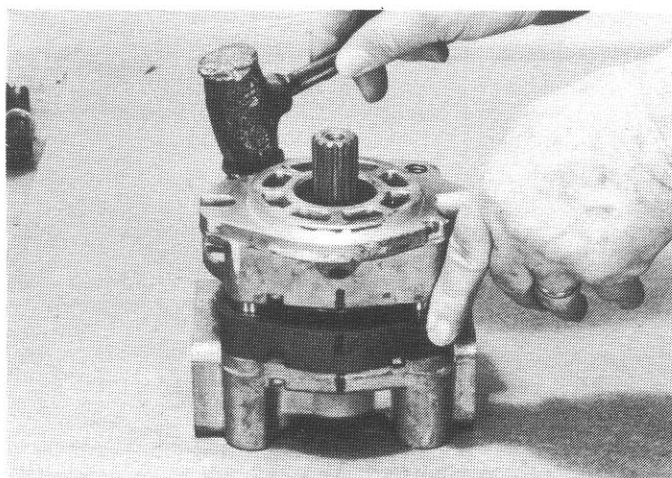

Fig. 22
26. With o-rings in flange plate (3) facing down and keeping plate true with shafts, slide it down until it contacts dowels in gear plate. Bump flange very lightly with hands or plastic hammer to force the plate down on dowels, at the same time making sure grease is holding o-rings in grooves. Once plate is in position if keyway protection was used, remove from shaft. (Fig. 22)